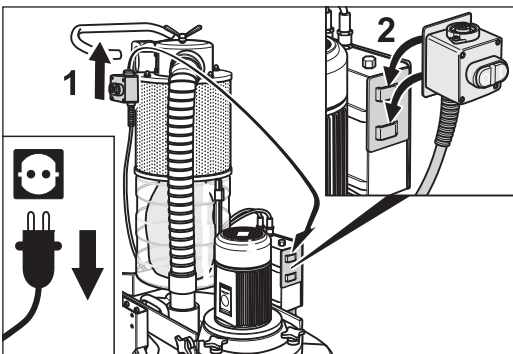

Fig. 64 Hook the ON/OFF switch into the transport holder on motor switch box.
- 4 Remove the ON/OFF switch from the chassis (fig. 64, 1) and hook it into the transport holder on motor switch box (fig. 64, 2).